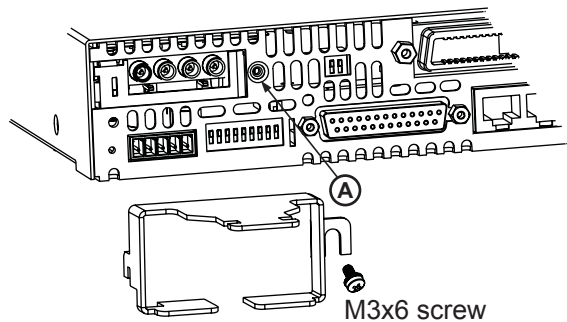

Fig.3-8: Shield assembly
4. Loosen the chassis screw marked “A” halfway as shown in Fig.3-8.
5. Assemble the protective shield to the chassis and tighten the two screws to fix the shield to the chassis(see Fig.3-8). Screws tightening torque: 4.8-5.3 Lb-inch.